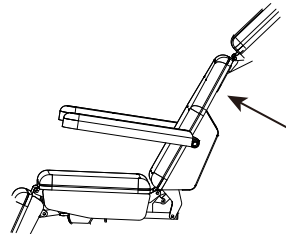

Figure 5
- Press button Line 1 on the handset to adjust the waist section of the table upward and downward (Figure 5). When the required angle is reached, release the button, and the angle of waist section will be locked automatically.